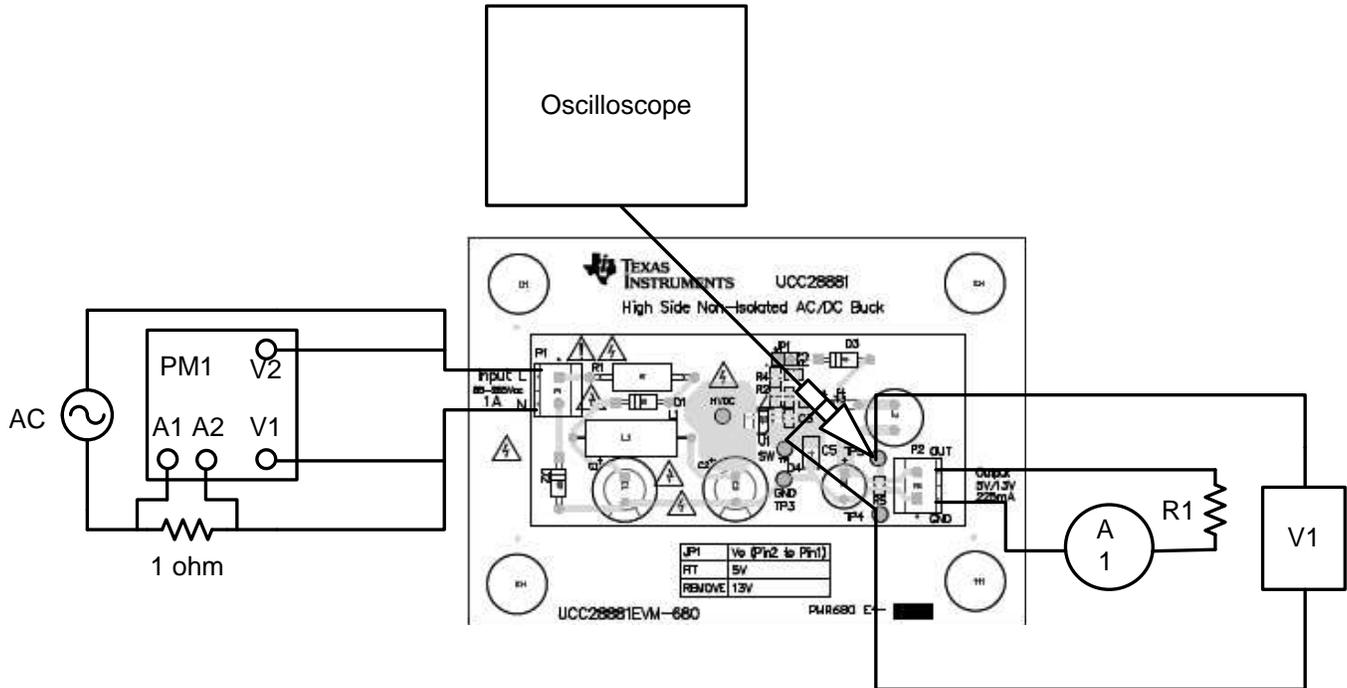

Figure 2. Test Setup
**AC Input Source:** The input source is an isolated variable AC source capable of supplying between 85  $V_{RMS}$  and 265  $V_{RMS}$  at no less than 5 W and connected as shown in Figure 2. For accurate efficiency calculations, a power meter (PM1) should be inserted between the AC source and the EVM. For highest accuracy, connect the voltage terminals of the power meter directly across the power source.